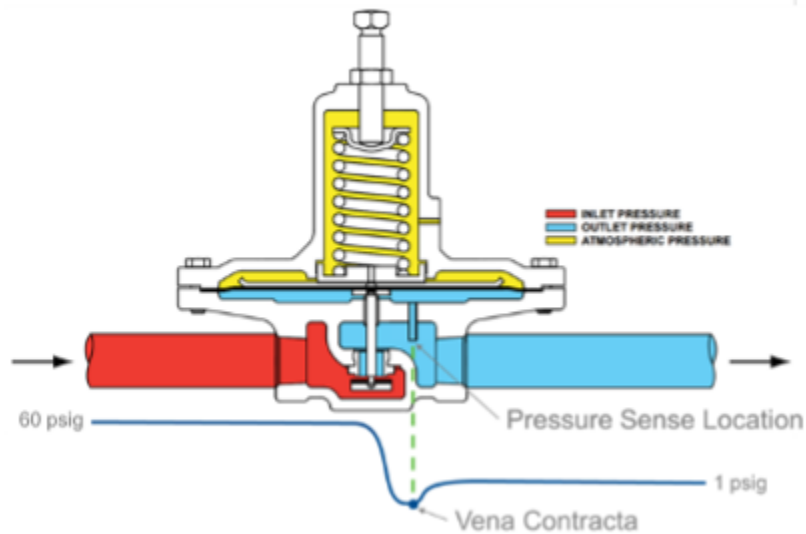

Figure 31. Vena contracta
The internal sensing regulator senses the pressure inside the valve body which is a turbulent location with high velocity. At a point near the orifice outlet, called the vena contracta, the velocity is highest the pressure will be lowest. As flow demand increases, so does velocity at the sensed point, causing an increasing discrepancy between the pressure at the regulator's sense location (at the vena contracta) and the downstream pressure (Figure 31).
- Figure 31. “Vena contracta” from Emerson is used and adapted for educational purposes under the basis of fair dealing.